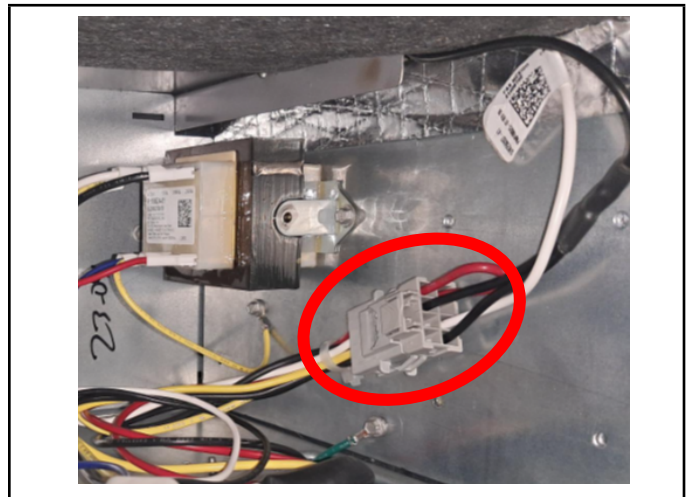

Figure 27. Converting Unit from 240VAC to 115VAC
- 3 - Plug the 115V power wiring harness with the gray male jack plug (found in the bag assembly) with the black and white pig tail leads. See Figure 27.